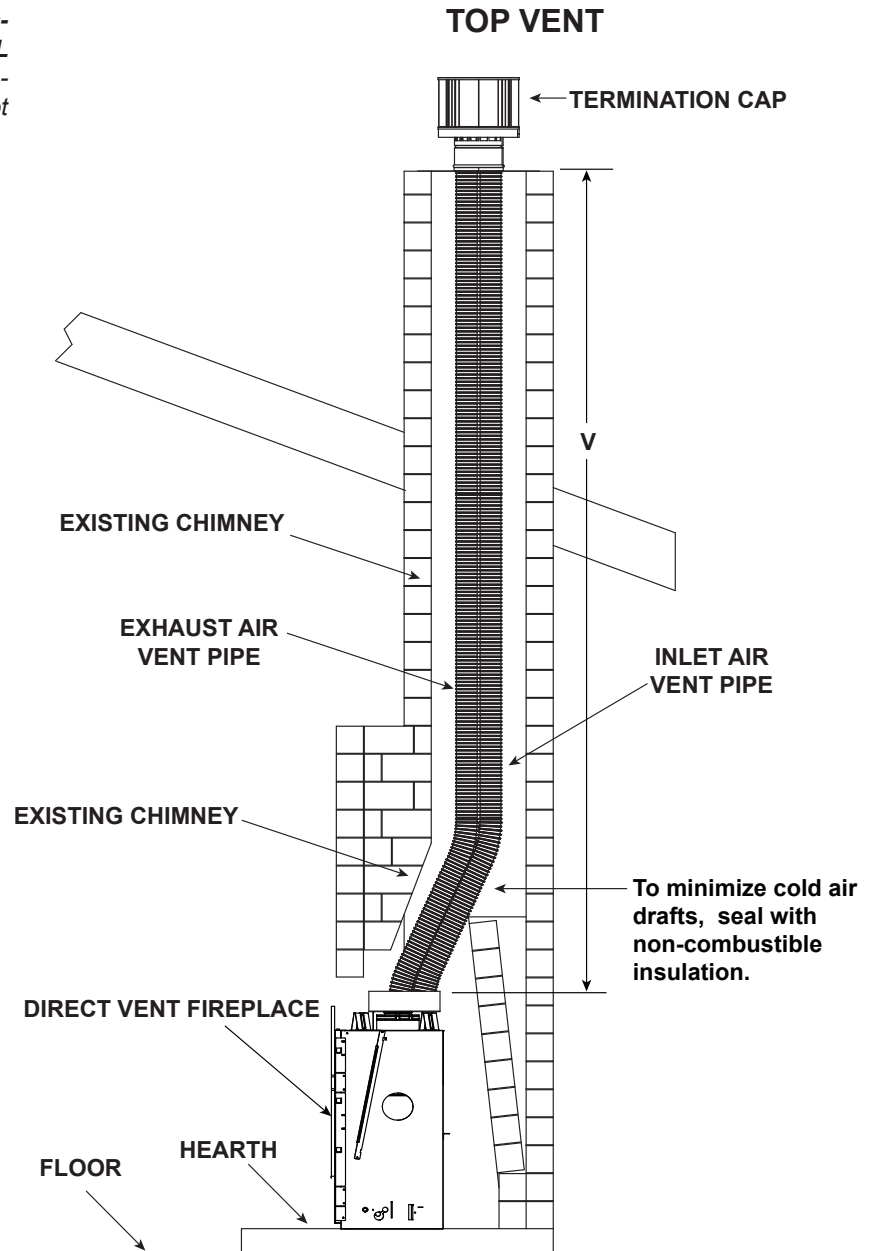

Figure 7.16
- Remove top seal cap and insulation if equipped. See Section 9, "Appliance Preparation." Attach the DV-46DVA-GCL adapter to the appliance starting collar with 3-1/2 in. self-tapping screws. See Figure 7.16.